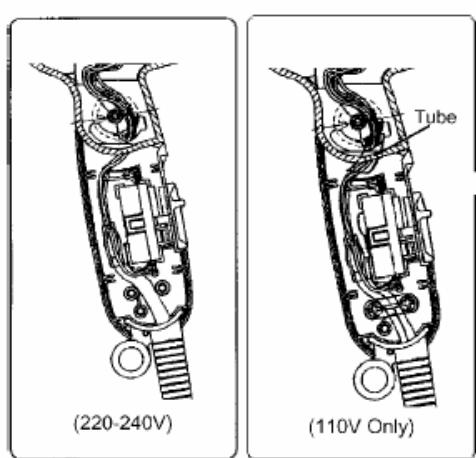

Fig. 3
4. Assemble the handle B into the housing AB as the following Fig.3.
5. Insert the main switch plate, the main switch and the power cord into the handle B as the following Fig.3.
6. Insert the cord bushing into the handle B as the following Fig.3.